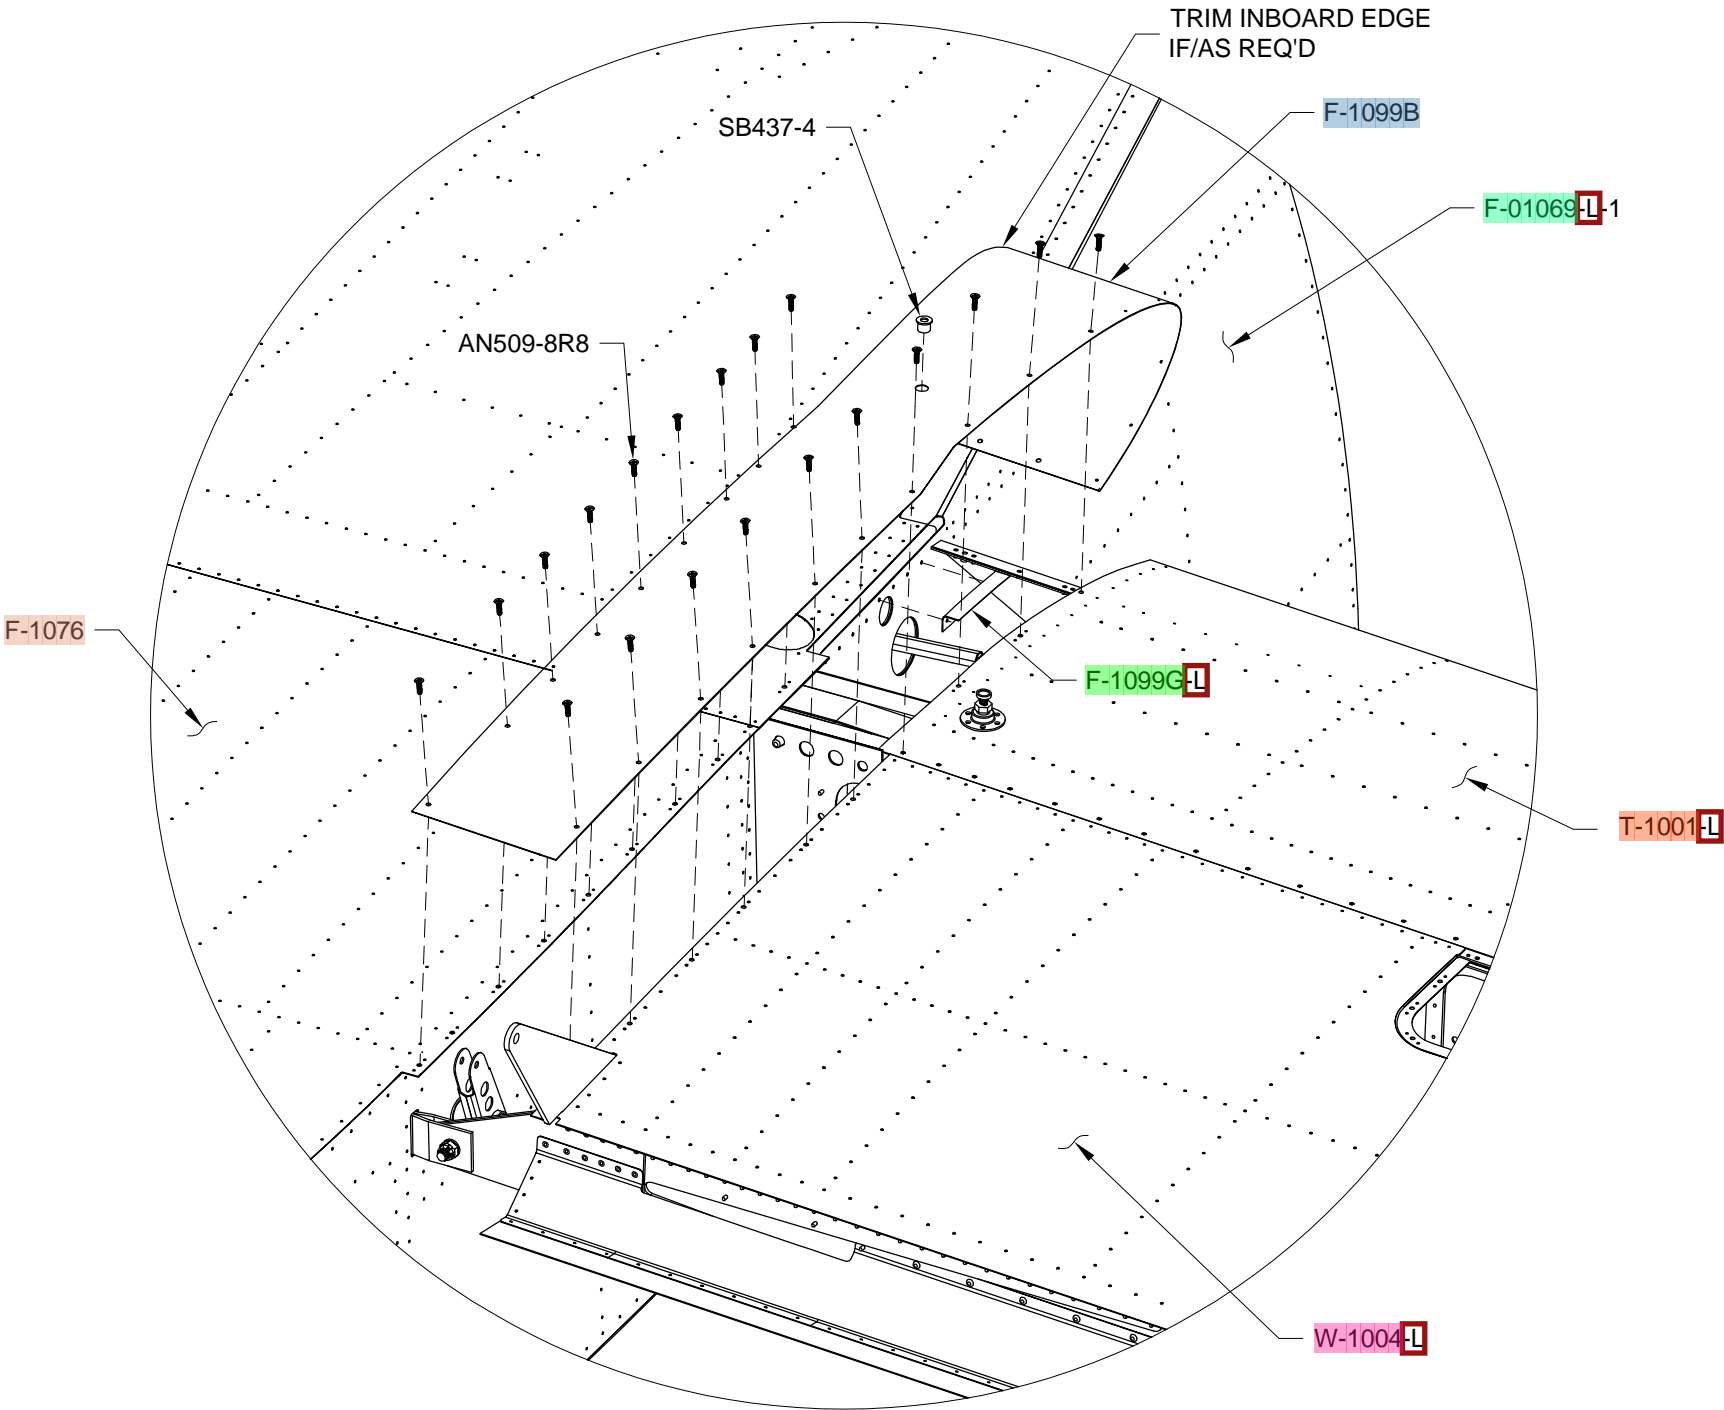

FIGURE 1:
Step 1: Cleco the F-1099G-L Wing Root Fairing Support to the F-01069-L-1 Fwd Side Skin as shown in Figure 1.
Step 2: Final-Drill #19 then deburr and dimple all 5/32 diameter holes in F-1099B Lower Wing Root Fairing. These holes are depicted in Figure 1 wherever screws are shown.
Install a snap bushing into the lower wing root fairing as shown in Figure 1.